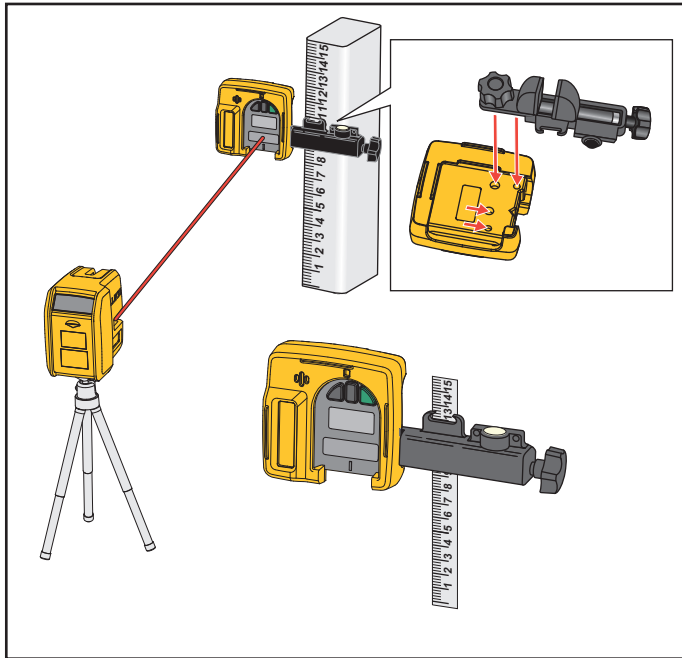

Figure 3. Level and Detector
3. Turn on the Laser Level and the Detector and direct the laser toward the laser reception window of the Detector. See Figure 3.